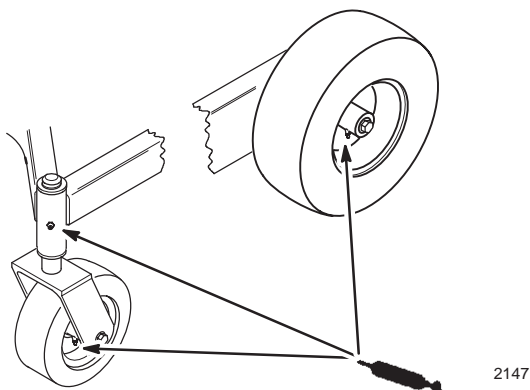

Figure 22
1. Lubricate the wheel bearings and front spindles until grease begins to ooze out of the bearings (Fig. 22).